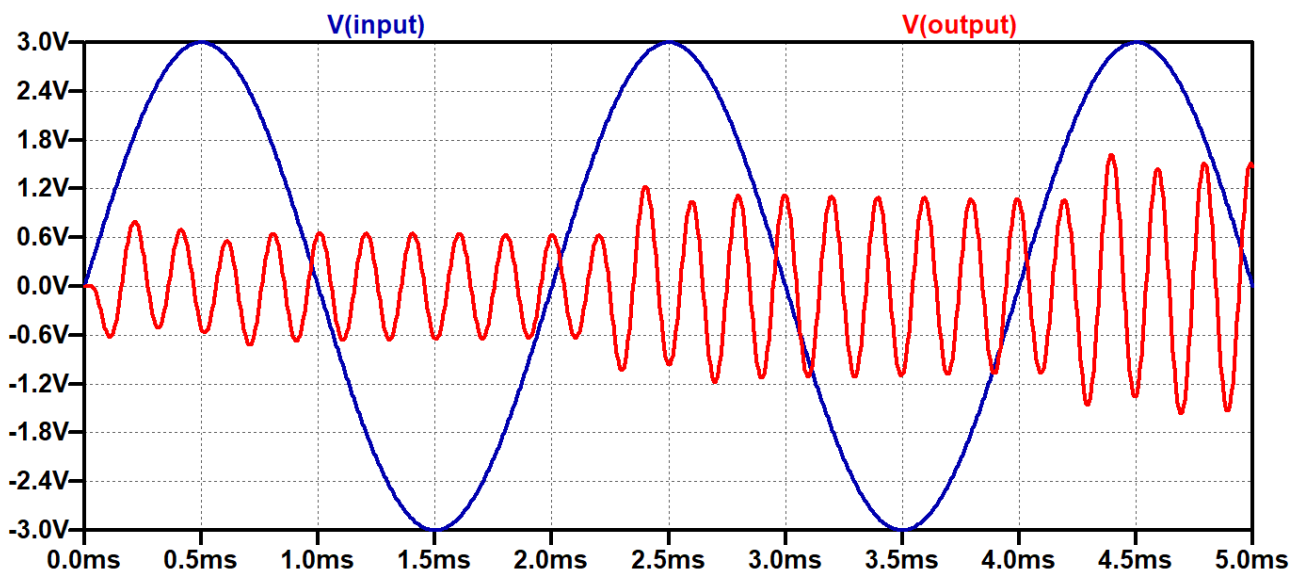

Fig. 7. Input & attenuated output signals
- Right click on the V_{in} , set the frequency to **0.5 KHz**, run the simulation again to see the output, you will observe that the output is less than the input as seen in Fig. 7, because the amplifier attenuates the signal as the frequency of the input signal is not equal to resonant frequency (5.03 KHz).